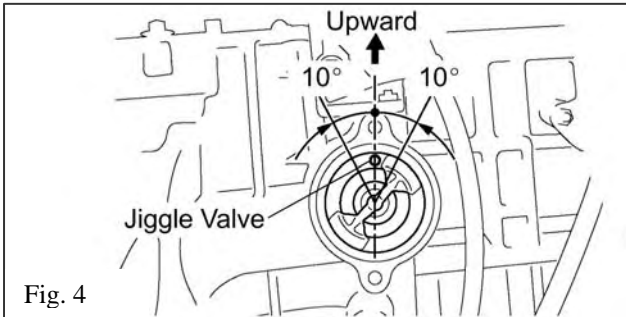

Fig. 4
- (f) **Install TRD 71° C (160°F) thermostat.** Be sure jiggle valve is in the 12 O'Clock position within +/- 10 degrees. (Fig. 4). Replace thermostat housing. **(Torque to 80 in-lbs)**